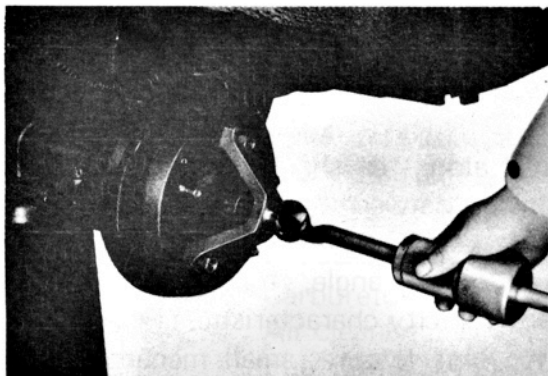

Fig. 5-2.
- 3) Take out the cotter pin from the front hub nut and remove the hub nut and then pull out the brake drum with the aid of the special tool-wheel hub puller-09943-35511 as shown in the Fig. 5-2 and sliding hammer.